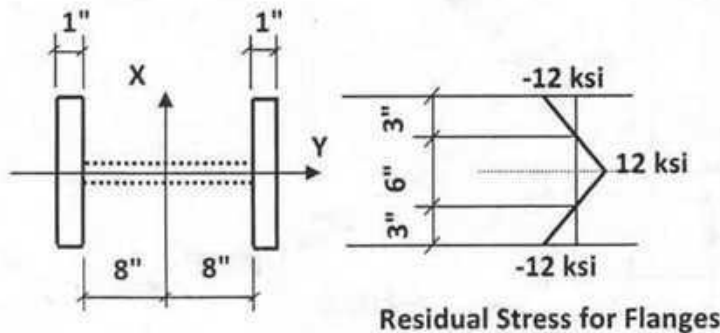

Fig. 4
5. The webless H section for a column, shown in Fig. 4, has the residual stress distribution as shown in the figure. Determine values of  $L/r_x$  and  $L/r_y$  corresponding to  $I_{x,eff}$  and  $I_{y,eff}$  (effective moments of inertia about x and y axes) respectively, if a column with the given section buckles at an imposed uniform compressive strain of  $-0.0012$  in./in. Given:  $F_y = 36$  ksi and  $E = 30000$  ksi. 8 1/3